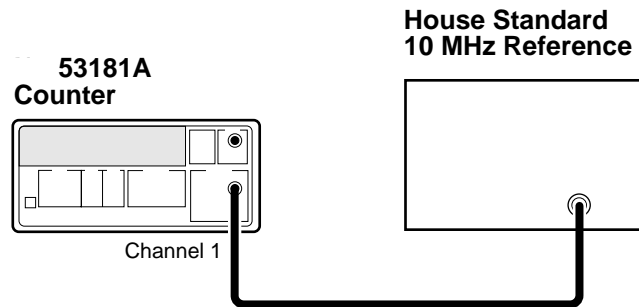

Figure 2-7. Standard Timebase Calibration Setup
- 1 Connect the output of a 10 MHz house standard to Channel 1 of the Counter as shown in Figure 2-7.**
1 Connect the output of a 10 MHz house standard to Channel 1 of the Counter as shown in Figure 2-7.